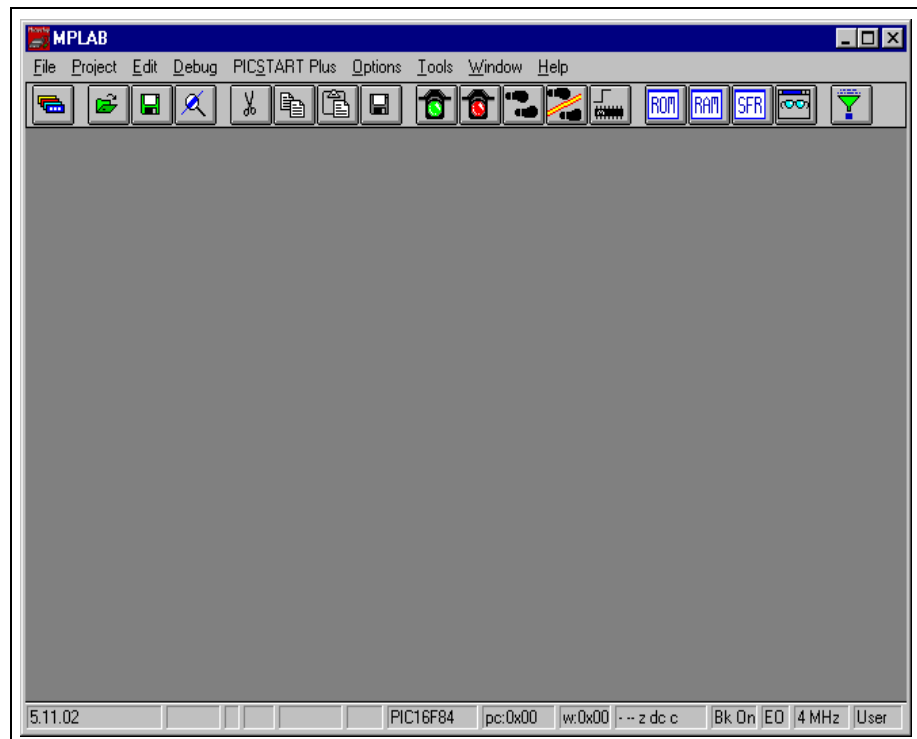

Figure 2.1: MPLAB IDE Desktop
7. Start MPLAB IDE by executing `MPLAB.EXE` or clicking on the MPLAB IDE icon. You will see the MPLAB IDE desktop as shown in Figure 2.1.